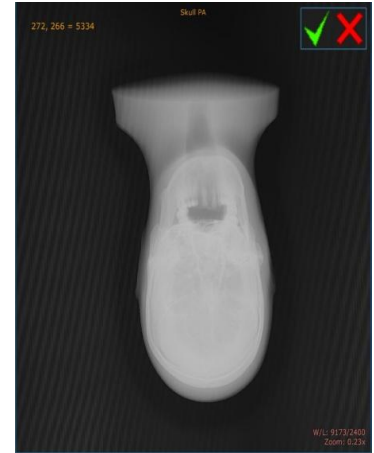

Figure 8
7. The raw image is recovered from the archive and is displayed. **Figure 8**